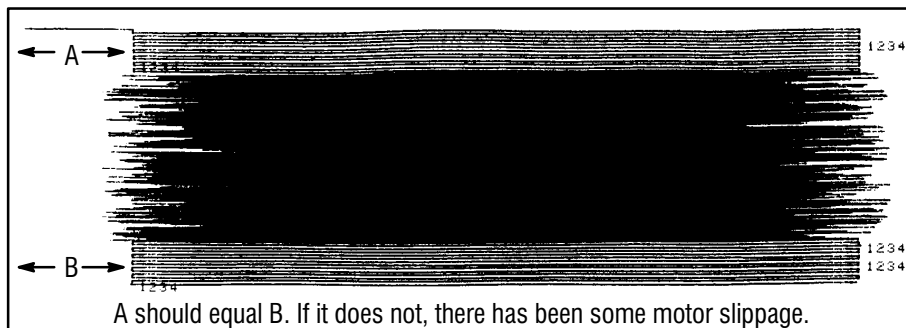

Figure 7-4. Example of Test N
- (K) Keyboard Test**—The keyboard test will verify that the keyboard is functional by printing the key presses.
- (N) High-Speed Printer**—One possible problem in the printer/plotter subsystem is slippage of the printhead motor. This would appear as a baseline offset in a real chromatogram. The test provides an excellent means for evaluating potential motor slippage because of the rigorous test plot with annotation. The test generates 10 seconds of square wave plot followed by 110 seconds of random noise, with annotation. The noise is followed by another 10 seconds of square wave. If slippage were to occur, it would probably occur during the noise plot because of the high torque requirements on the motor. Any motor slippage would be detected by observing the square waves. The distance from the left and right edges of the paper to the edges of the plot would vary depending on whether the motor slipped. (See figure 7-4.)